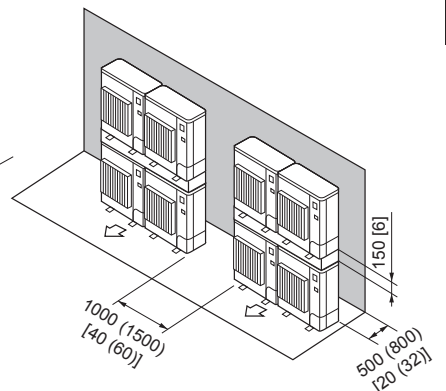

Fig. 2-18
- ⑦ Stacked unit arrangement (Fig. 2-18)